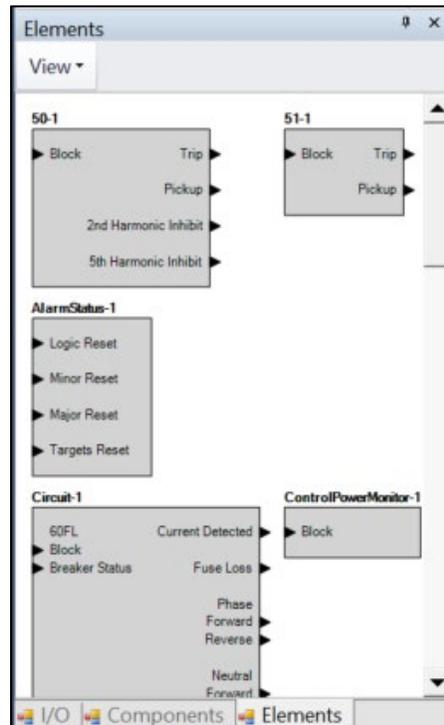

Figure 2-22. Elements Screen
- a. Select the Elements tab from the library in the center of the screen. Drag the 50-1 and 51-1 functions into the workspace. The Elements screen is shown in Figure 2-22.